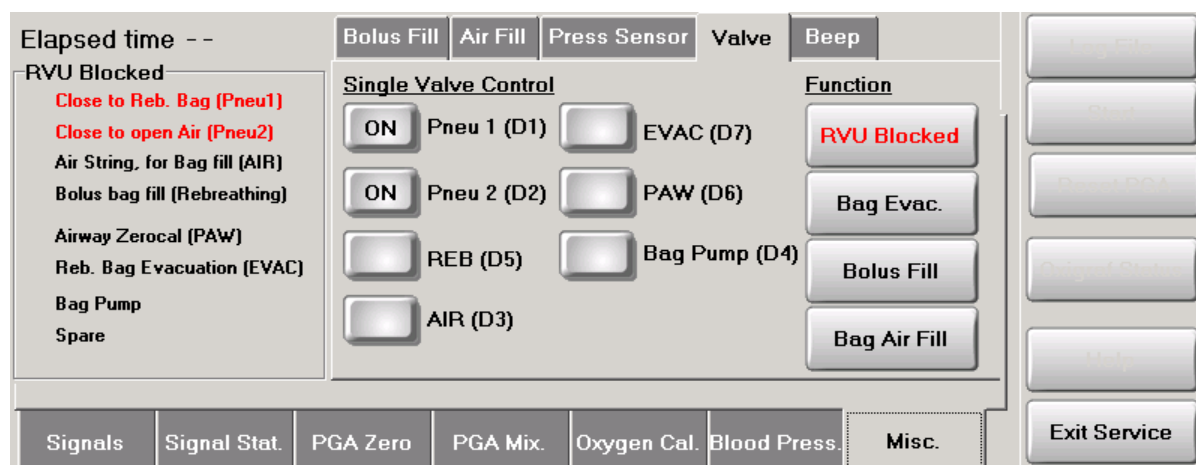

Figure 4.7.2-1 Menu for opening Pneu 1 & 2 during leak test
- Press **RVU Blocked**, see figure 4.7.2-1.